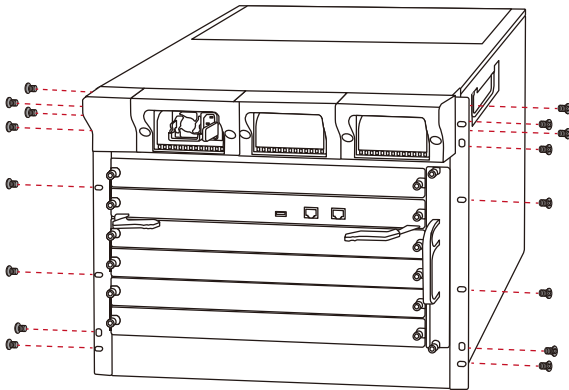

Figure 3-1 Rack-mounting Brackets
Step 2 Secure the brackets tightly on the CS-6306R as shown in Figure 3-1.